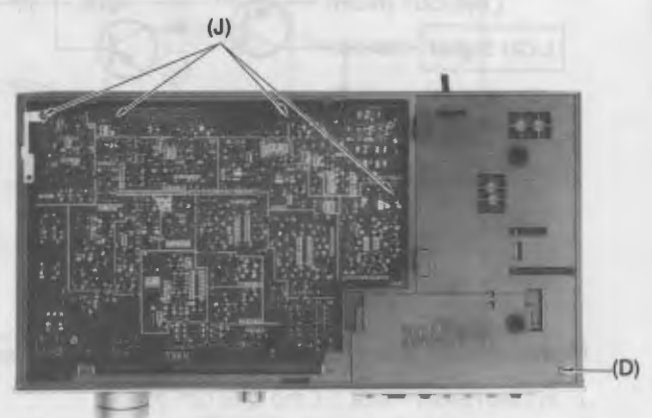
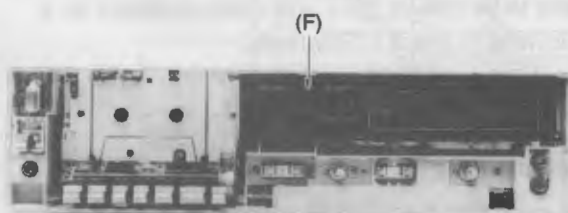

Fig. 4
Fig. 5
<p>Ⓔ Head azimuth adjustment</p> <p>Condition:</p> <ul style="list-style-type: none"> • Playback mode <p>Equipment:</p> <ul style="list-style-type: none"> • VTVM • Oscilloscope • Test tape (azimuth) ... QZZCFM 	<p>L-ch/R-ch output balance adjustment</p> <ol style="list-style-type: none"> 1. Make connections as shown in fig. 3.  <p>Fig. 3</p> <ol style="list-style-type: none"> 2. Playback the 8kHz signal from the test tape (QZZCFM). Adjust screw (B) in fig. 4 for maximum output L-ch and R-ch levels. <p>When the output levels of L-ch and R-ch are not at maximum at the same time, readjust as follows.</p> <ol style="list-style-type: none"> 3. Turn the screw shown in fig. 4 to find angles A and C (points where peak output levels for left and right channels are obtained). Then, locate the angle B between angles A and C, i.e., a point where L-ch and R-ch output levels come together at maximum. (Refer to figs. 4 and 5.)  <p>Fig. 4</p>  <p>Fig. 5</p> <p>L-ch/R-ch phase adjustment</p> <ol style="list-style-type: none"> 4. Make connections as shown in fig. 6. 5. Playback the 8kHz signal from the test tape (QZZCFM). Adjust screw (B) shown in fig. 4 so that pointers of the two VTVMs swing to maximum and a waveform as illustrated in fig. 7 is obtained on the oscilloscope.  <p>Fig. 6</p>  <p>Fig. 7</p>